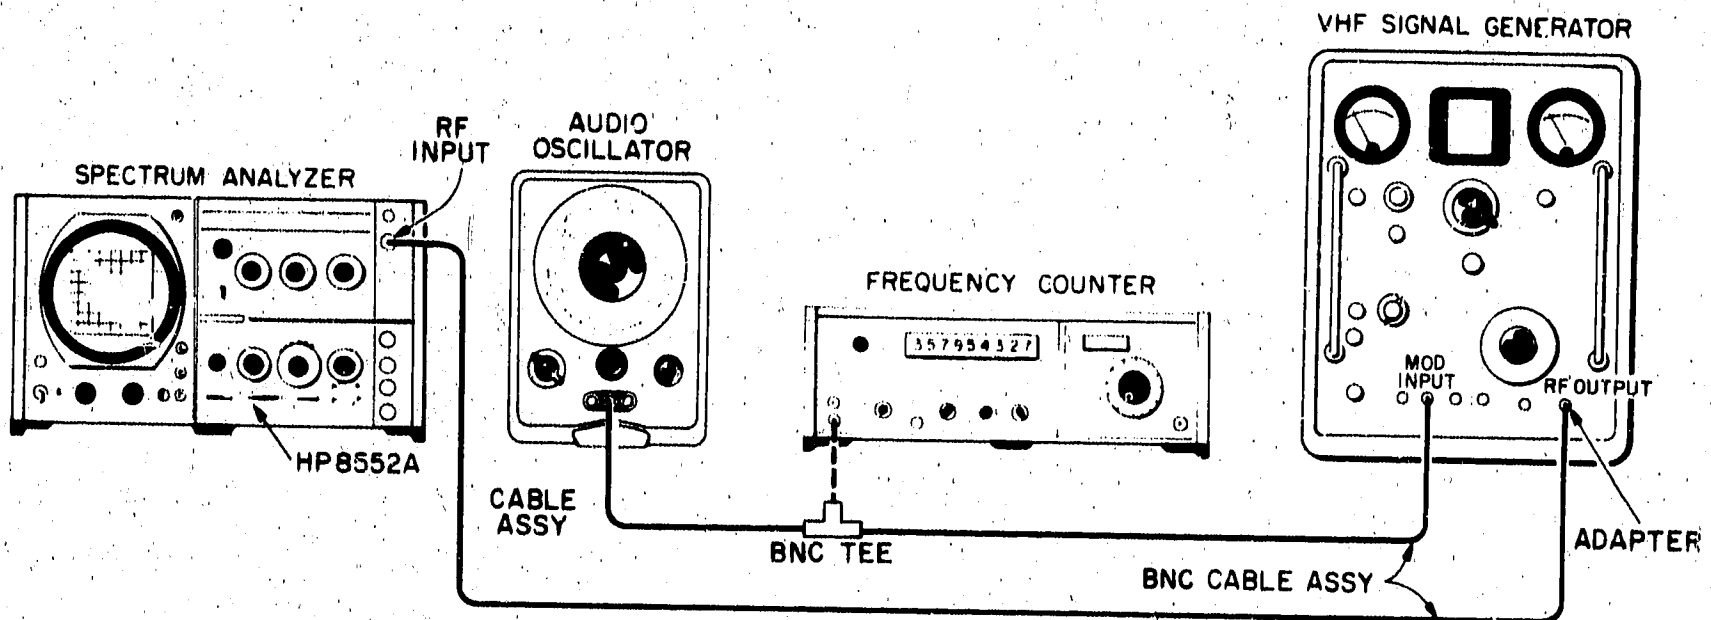

Figure 4-6. Scan Time Accuracy Test Setup.
1. Connect the test setup in Figure 4-6 and make the following control settings: